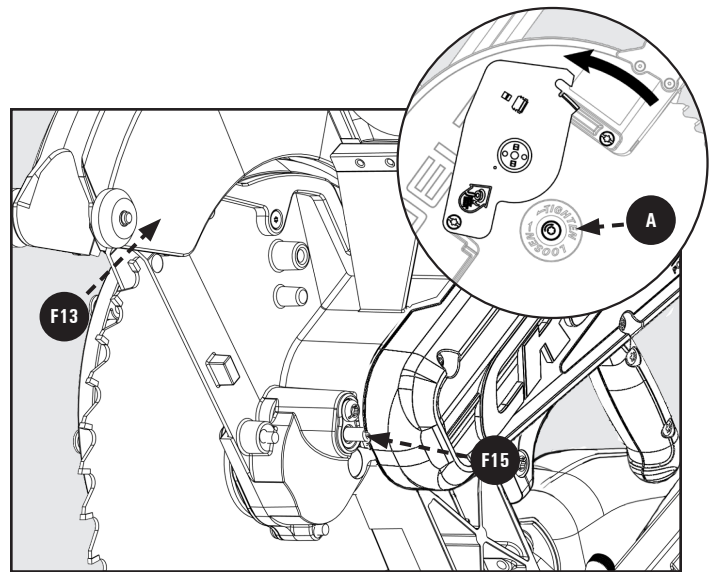

Figure 8
See Figure 8.
**⚠ WARNING:** Make sure the Spindle Lock Button **F15**, see Figure 8, is not engaged before reconnecting Saw to power source. **NEVER** engage Spindle Lock Button when Blade is rotating.